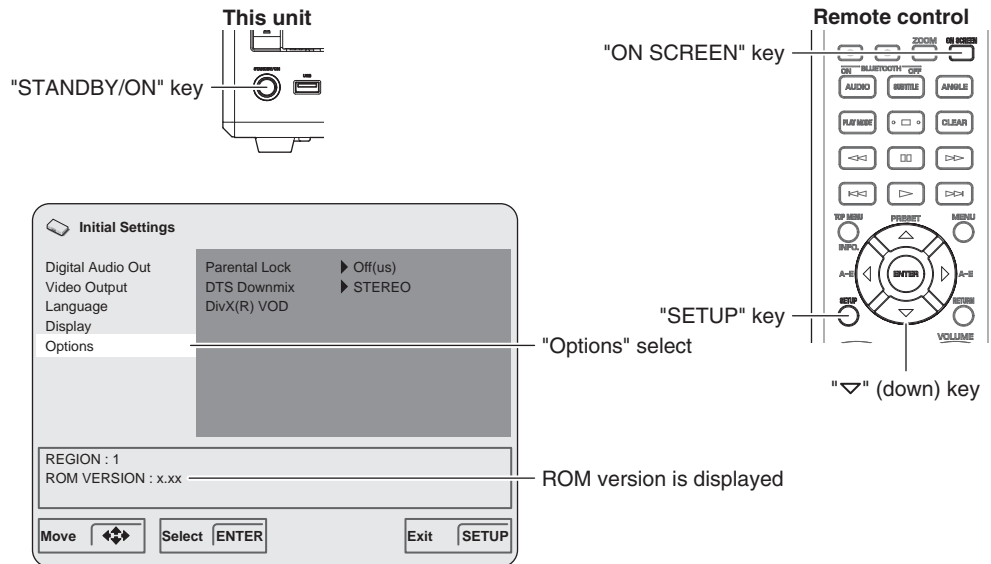

Fig. 7
7. Move the cursor to [Options] by pressing the "DOWN" key on the remote control repeatedly and press the "ON SCREEN" key. (Fig. 7)
The ROM version is displayed. (Fig. 7)
8. Press the "SETUP" key on the remote control to end the SETUP procedure. (Fig. 7)
9. Press the "STANDBY/ON" key of this unit to turn off the power. (Fig. 7)